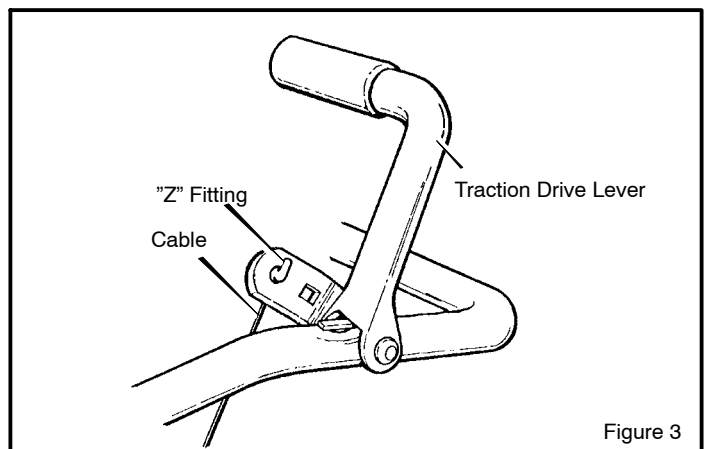

Figure 3
**NOTE: If the cables have become disconnected from the clutch levers, reinstall the cables as shown in Figure 3.**